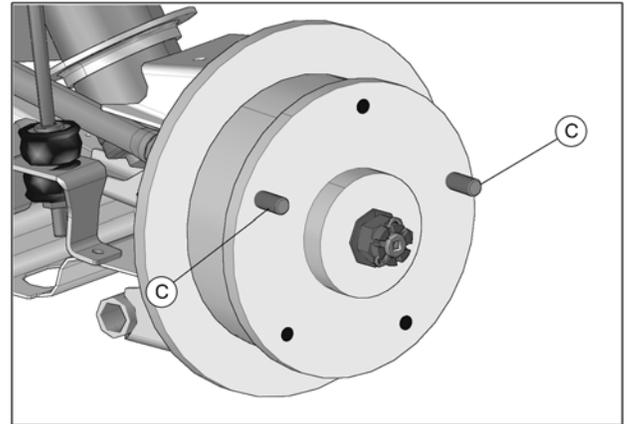
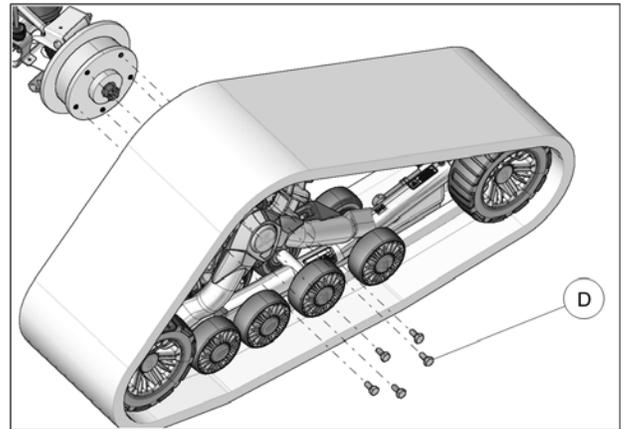

Fig. 7
Fig. 8
**CAUTION:** Screw the supplied threaded studs (C) in the hub to help position the System correctly on it. See Fig. 7
7. Secure the undercarriage to the rear hub using the provided wheel bolts (D). To install the Track System, screw the two threaded studs (C) provided at the 10 and 2 o'clock positions on the hub. Slide the undercarriage on the studs, and bolt it to the hub with three wheel bolts. Remove the studs and install the last two wheel bolts. See Fig. 7 and Fig. 8